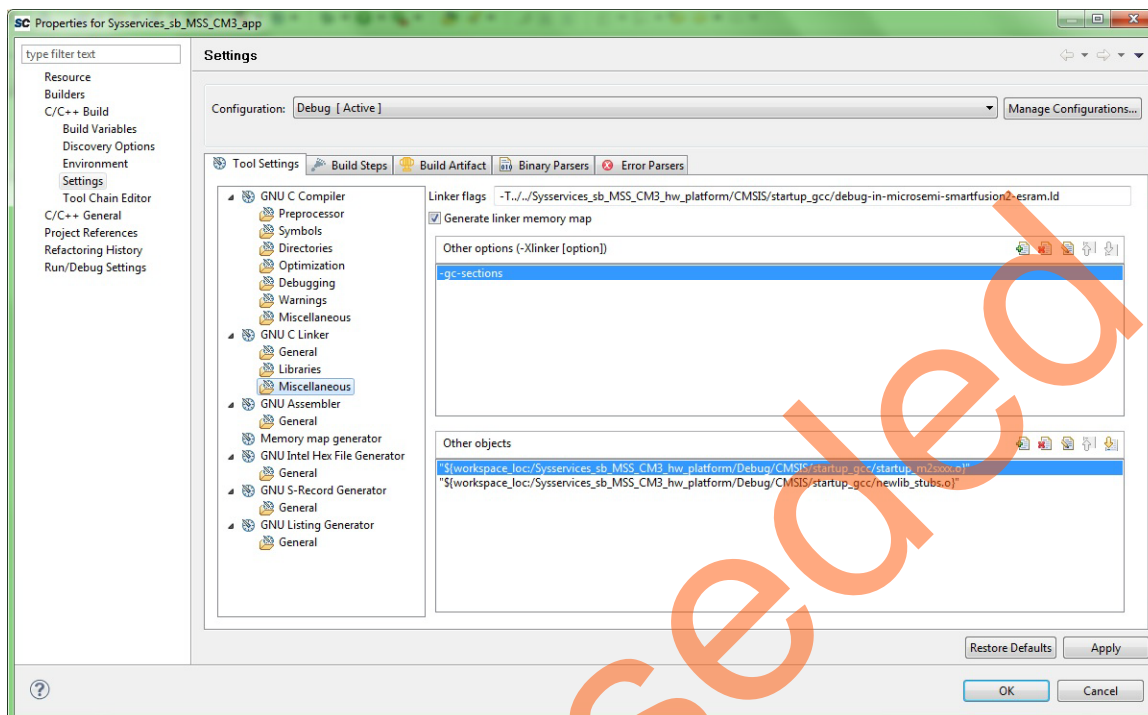

Figure 32 • Syservices_sb_MSS_CM3 Properties Window
10. In the **Properties** window, go to **Settings** under **C/C++ Build** and select **GNU C linker** as **debug-in-microsemi-smartfusion2-esarm.ld** as shown in Figure 32. Click **Apply** and then **OK**.